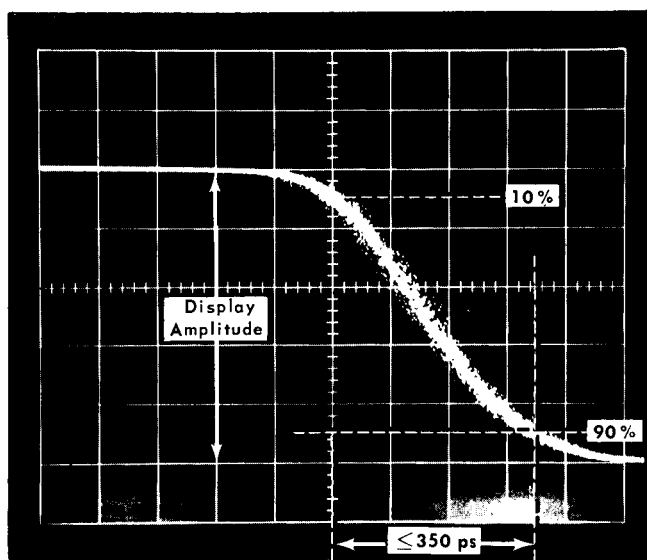

Fig. 7-6. Typical display showing risetime (100 ps/div).
e. Read the risetime from the 10% to the 90% points as 350 ps or less. See Fig. 7-6.